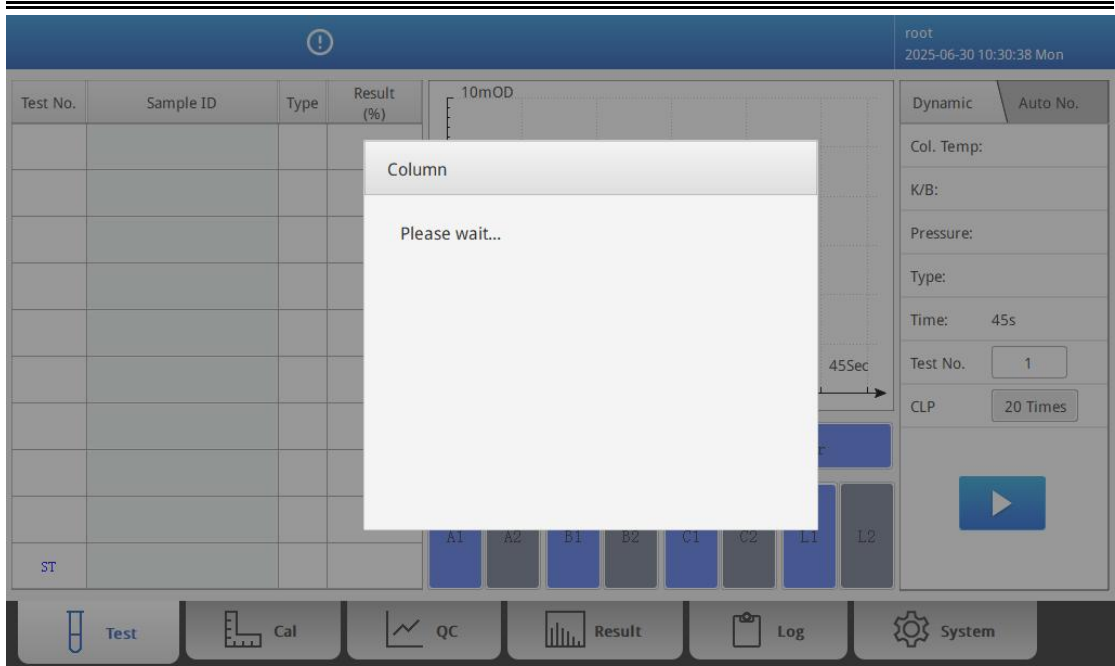

Fig 4-8 View of Column Installation Procedure(5)
- 4) Input the temperature for the column, press “Yes” and a prompt will show as Fig 4-8.